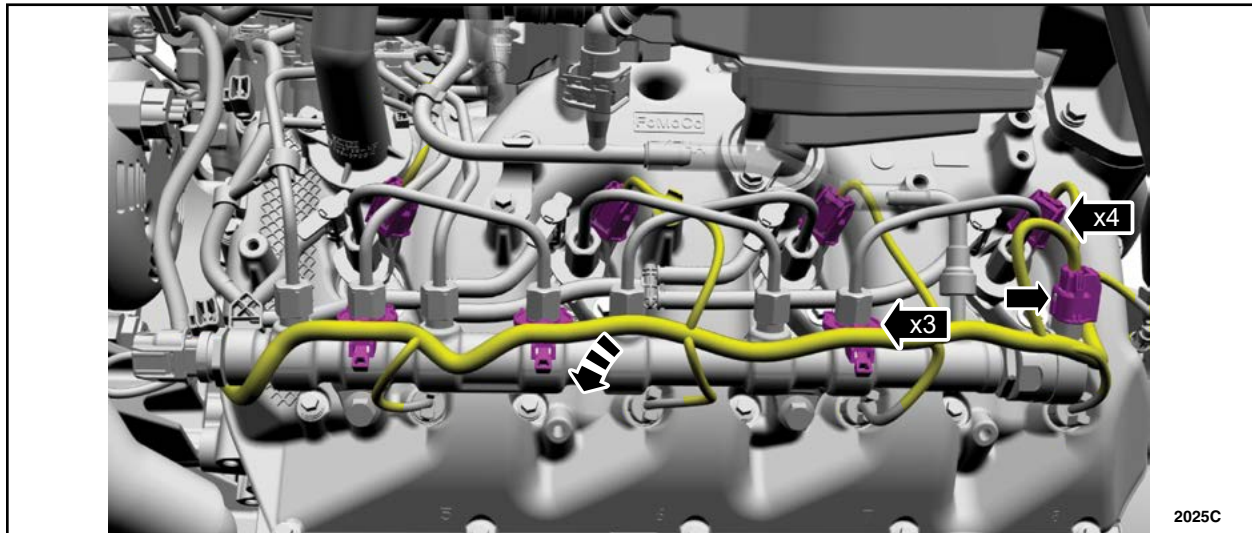

FIGURE 3
6. Position aside the left hand (LH) fuel rail wiring harness. See Figure 3.
- Disconnect the four (4) fuel injector electrical connectors.
- Disconnect the three (3) fuel wiring harness retainers from the fuel rail and position aside the harness.